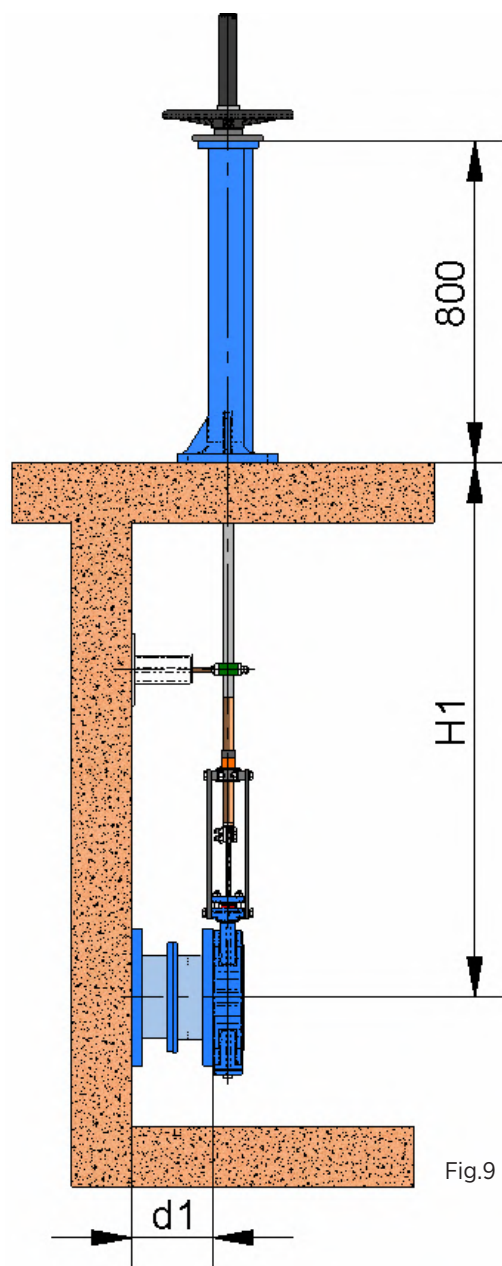

Fig.9
- The standard floor stand is 800mm high (Fig. 9). Other floor stand measurements available on request.